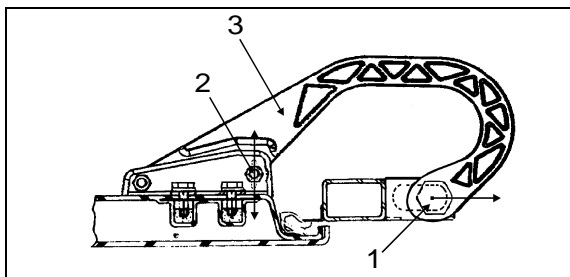

FIGURE 73: DOOR HINGE
- Loosen nut (1, Figure 73).
- Move part (3, Figure 73) as shown in figure for "LEFT or RIGHT" adjustment.
- Tighten nut (1, Figure 73).
- Loosen nut (2, Figure 73).